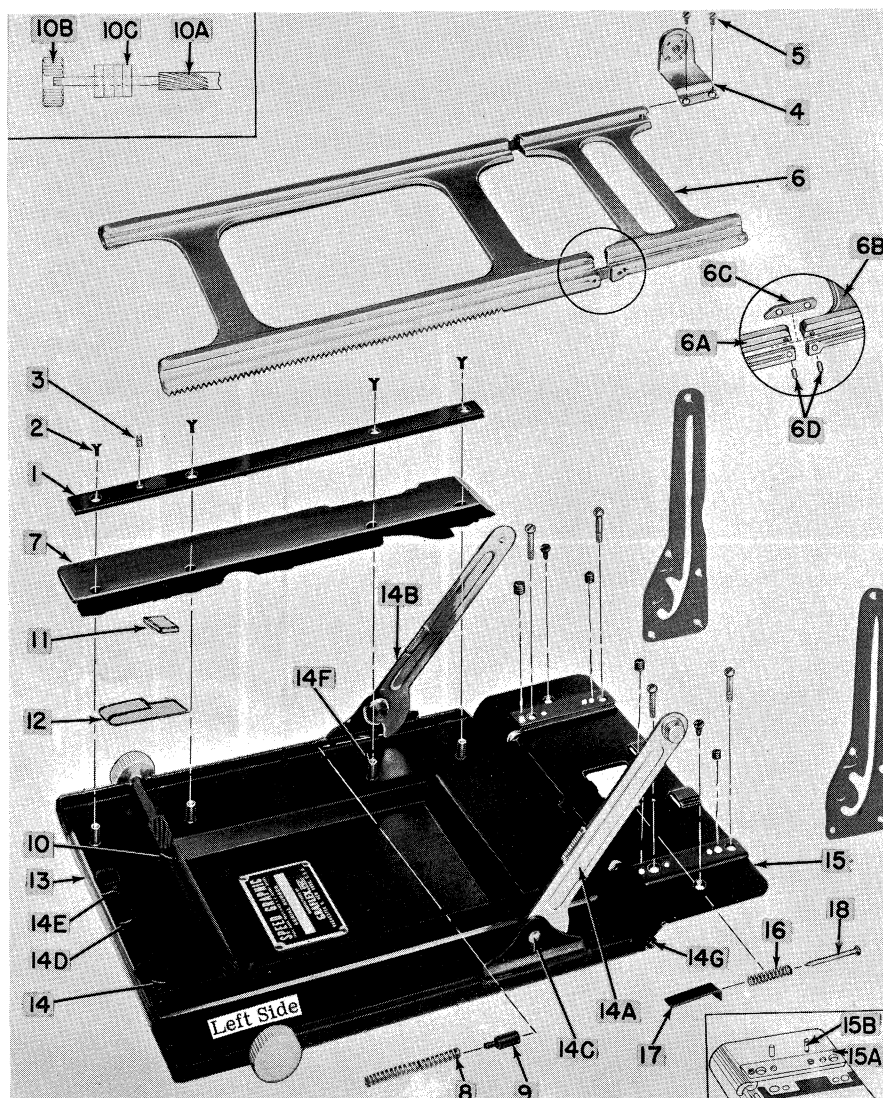

Figure 10. "23" Speed Bed, Exploded View
(c) On "23" cameras: Remove the bed section guide (1, figure 10) by removing guide and block screws (2).
(f) On "23" and "34" cameras: Lift the bed block from its position, being careful that the bed brace spring (8, figure 10) does not throw and lose the bed brace plunger (9).
(b) On "23" cameras: Position the pinion assembly (10, figure 10) on the bed with the four yoke lock brakes (10C) close together and resting on the focusing pinion spring (12).
(b) On "23" cameras: Insert the stud of the bed brace plunger (9, figure 10) into the space provided on the under side of the bed block (7). Place the brake plate (11) on the cut-out portion on top of the yoke lock brake (10C) and lower the block into position over the guide and block screw bushings (14F). Assemble the bed section guide (1) and secure with four machine screws (2).
(f) On "23" cameras: It may be necessary to readjust the guides or to increase tension on the yoke lock brake (10C, figure 10) by gently tightening the set screw (3) until the desired tension on the pinion is reached.